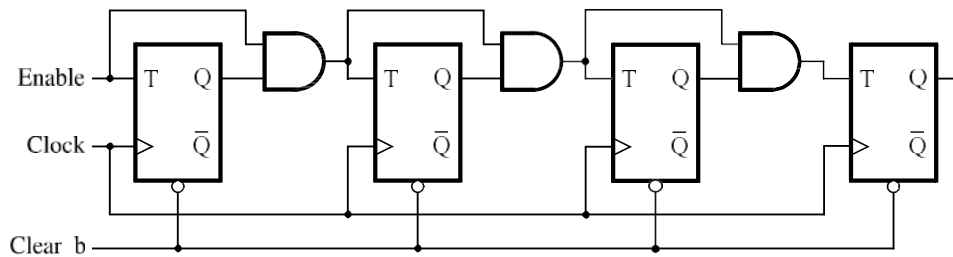

Figure 1: A 4-bit counter.
Consider the circuit in Figure 1. It is a 4-bit synchronous counter (text Section 5.9.2) that uses four T-type flip-flops (text Section 5.5). The counter increments its value on each positive edge of the clock if the *Enable* signal is asserted. The counter is reset to 0 by setting the *Clear\_b* signal low – it is an *active-low* asynchronous clear. You are to implement an 8-bit counter of this type.
1. Draw the schematic for an 8-bit counter using the same structure as shown in Figure 1.
7. Use the Quartus RTL Viewer to see how the Quartus software synthesized your circuit. What are the differences in comparison with Figure 1?